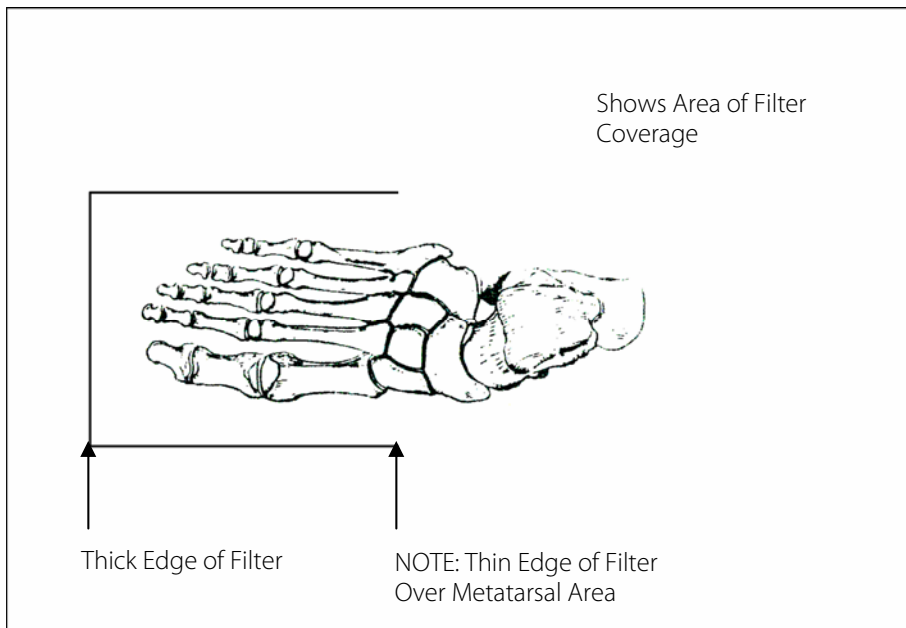

Figure 2-1. AP Filter Orientation
- A. A. AP Foot 40" F.F.D. When performing a single-exposure AP radiograph of the foot, the thin filtration portion of the filter should begin at the proximal end of the metatarsal bones. The thick edge of the filter should extend beyond the terminal phalanges (see Figure 2-1).